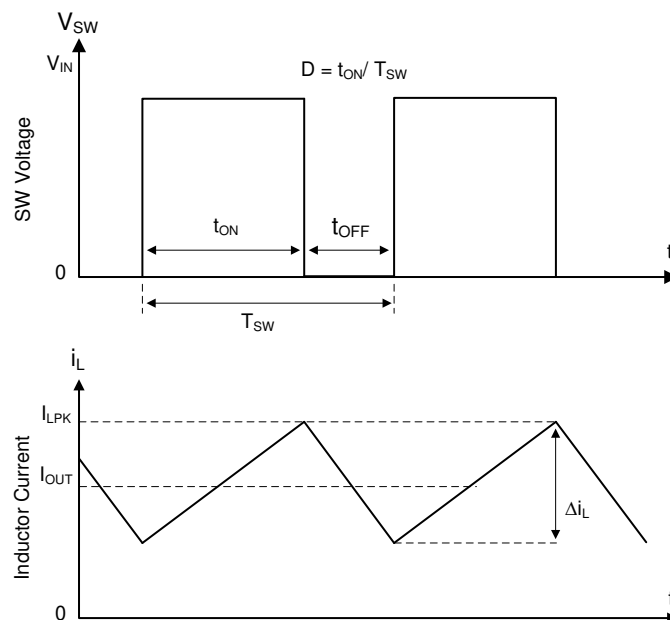

图 7-1. SW Node and Inductor Current Waveforms in Continuous Conduction Mode (CCM)
The following operation description of the TPS563300 refers to the functional block diagram and to the waveforms in 图 7-1. The TPS563300 is a synchronous buck converter with integrated high-side (HS) and low-side (LS) MOSFETs (synchronous rectifier). The TPS563300 supplies a regulated output voltage by turning on the HS and LS NMOS switches with controlled duty cycle. During high-side switch on time, the SW pin voltage swings up to approximately V_{IN} , and the inductor current, i_L , increases with linear slope $(V_{IN} - V_{OUT}) / L$. When the HS switch is turned off by the control logic, the LS switch is turned on after an anti-shoot-through dead time. Inductor current discharges through the low-side switch with a slope of $-V_{OUT} / L$. The control parameter of a buck converter is defined as Duty Cycle $D = t_{ON} / t_{SW}$, where t_{ON} is the high-side switch on time and t_{SW} is the switching period. The converter control loop maintains a constant output voltage by adjusting the duty cycle D . In an ideal buck converter where losses are ignored, D is proportional to the output voltage and inversely proportional to the input voltage: $D = V_{OUT} / V_{IN}$.